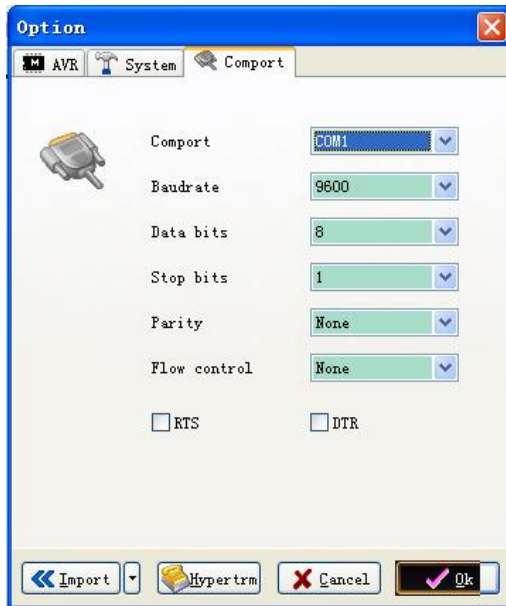

Fig. 3
- 5) Change settings on tab "Com Port" as per Fig. 3. Com port number should be chosen according to the actual port created (the one you saw in installing VCP. **Note** that after VCP driver is installed the virtual com port number could change from time to time, depending on which USB port you plug in and what other applications are running. So check is recommended each time you do the connection). Communication format must be set to **9600 bps, 8N1 with no parity and flow control**.